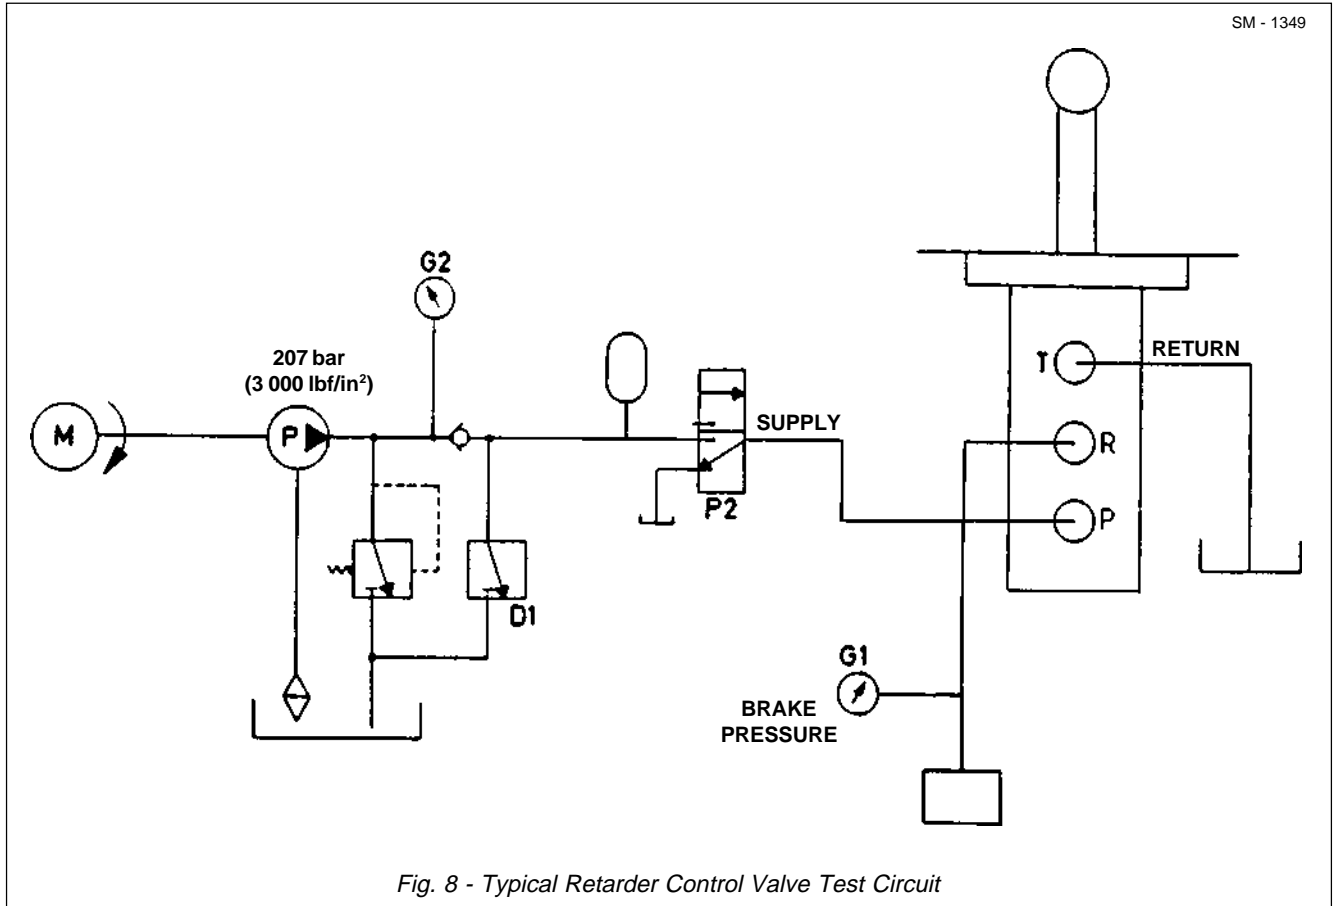

Fig. 8 - Typical Retarder Control Valve Test Circuit
**Note:** A hydraulic test fixture with capabilities similar to the one shown in Fig. 8 is required.
1. Position the valve in the test fixture to allow actuator plunger (2) to be activated by hand using a lever.